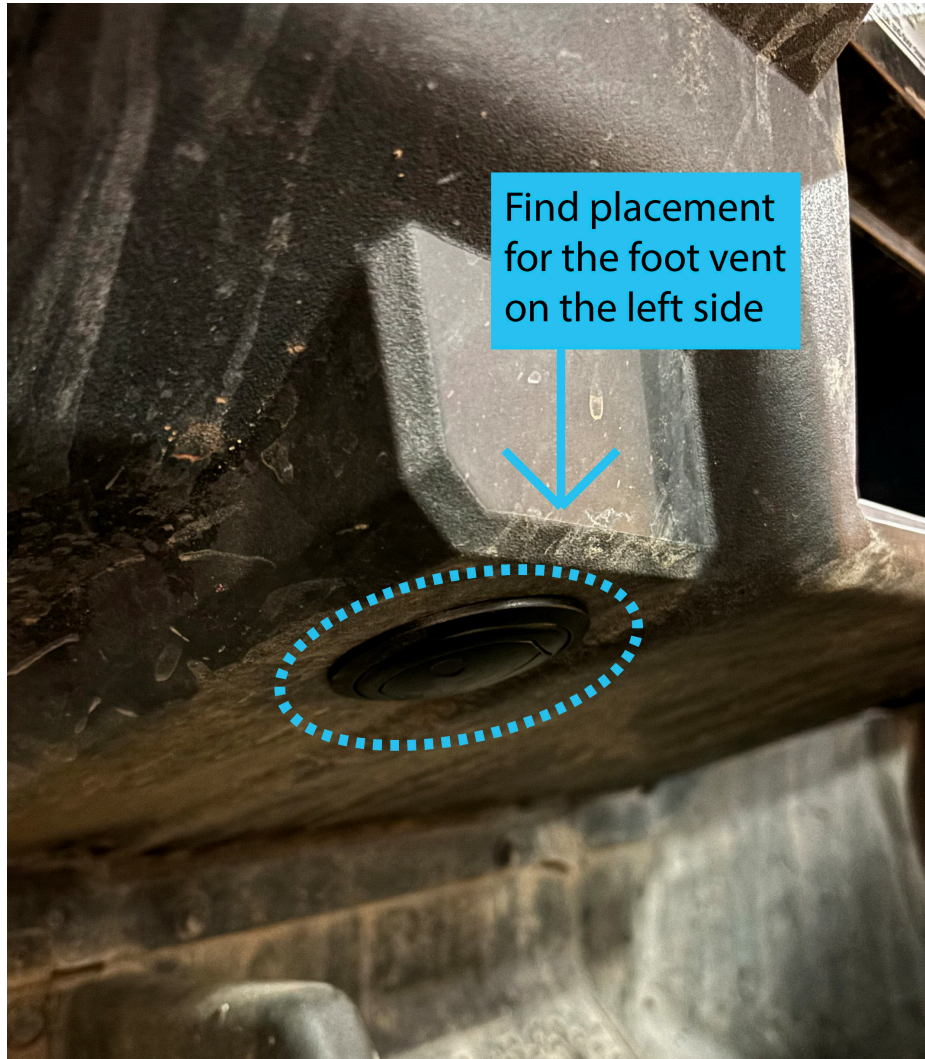

FIGURE 4
9. Locate a spot on the driver side of the lower dash next to the center glove compartment. **FIGURE 4**